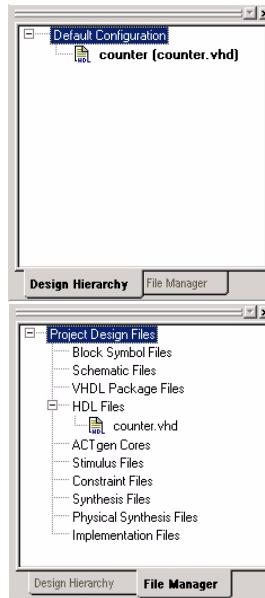

Figure 3-8. Design Hierarchy and File Manager Tabs
3. From the **File** menu, click **Save**. The design file counter appears in the **Design Hierarchy**. Libero IDE lists `counter.vhd` under HDL files in the File Manager, as shown in Figure 3-8.